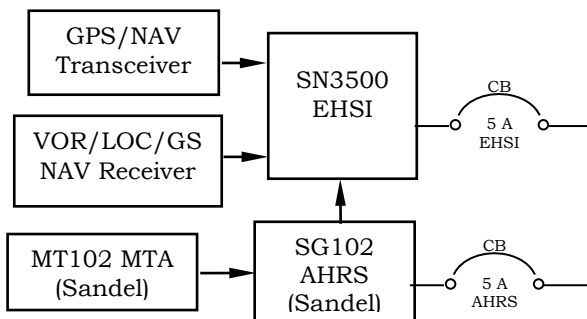
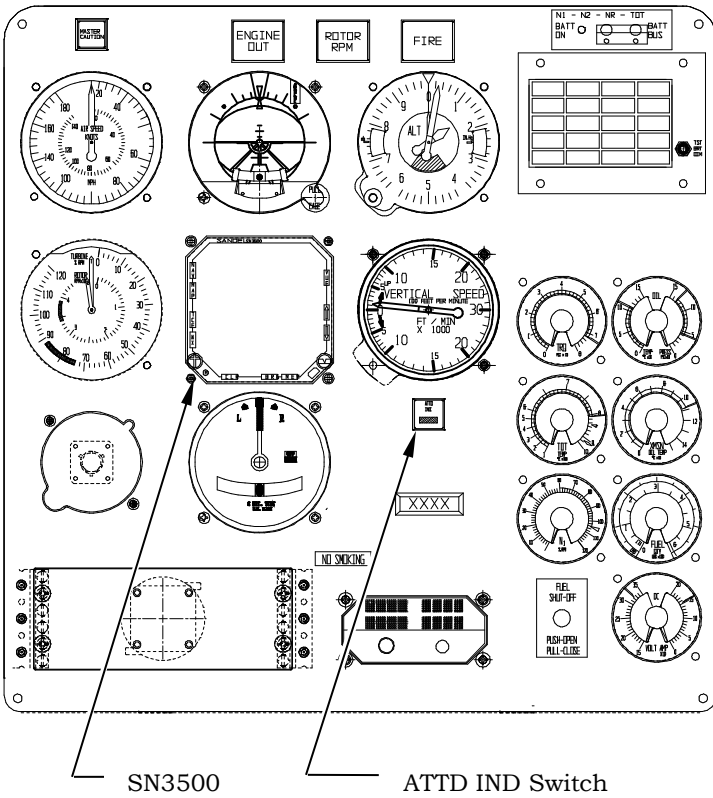
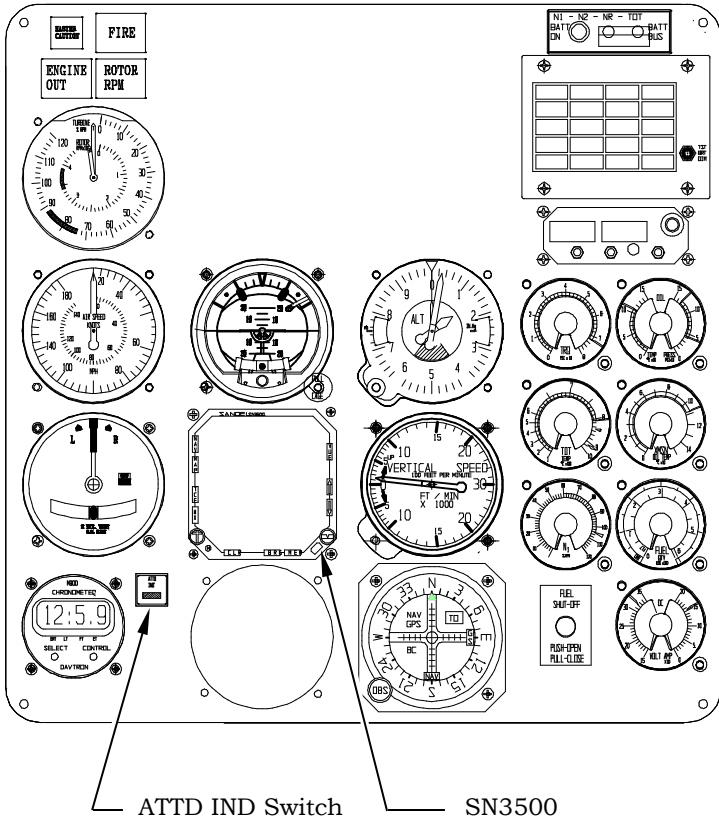

Figure 7-1. SN3500 System Block Diagram
Figure 7-5. Instrument Panel Layout – P/N 4220609-1
Figure 7-6. Instrument Panel Layout – P/N 4220609-5
2. Components particular to the EHSI configuration include the SN3500 located in the instrument panel (Figures 7-5 thru 7-7), the SG102 Attitude Heading Reference System (AHRS) located in the baggage box, and the MT102 Magnetic Transducer Accessory (MTA) located in the tailcone. The system also includes inputs from GPS/NAV (if equipped) and VOR/LOC/GS receivers. The system block diagram is shown in Figure 7-1.
3. As shown from Figure 7-1, the SN3500 is configured to display data from the following sources:
The Reversionary Mode (if equipped) is activated by the **ATTD IND** annunciator switch located on the instrument panel (Figure 7-5 or Figure 7-6).